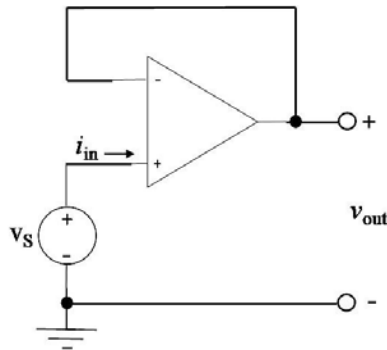

Figure 9: a voltage follower circuit
A variation of non-inverting amp is known as a *voltage follower*. The gain of this circuit equals 1. The large input impedance and small output impedance of the op-amp makes it suitable as a buffer between a source with high output impedance and a load. As shown in Figure 9, the voltage follower does not need any external resistance to operate. The gain computation still conforms to (23), of course, with $R_F = 0$ (short circuit) and $R_S = \infty$ (open circuit).